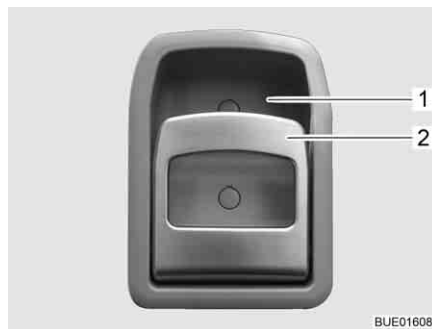

Fig. 42 Door lock of conversion door, inside
- Pull on the handle (Fig. 42,2). The door lock is unlatched or opened.
- Press the upper part of the handle (Fig. 42,2) in the direction of the recessed handle (Fig. 42,1). The door lock is locked.